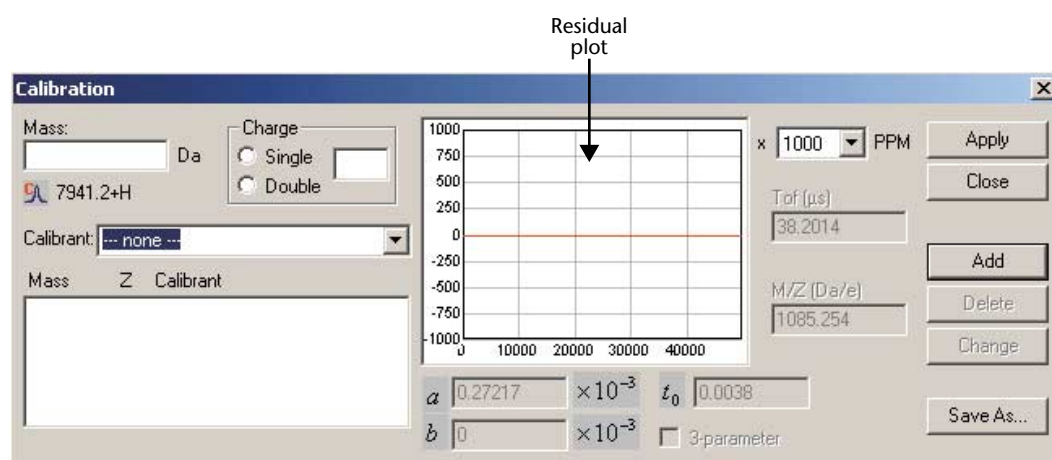

Figure 3-1: The Calibration dialog.
Calibration settings are adjusted in the **Calibration** dialog (Figure 3-1), which allows selection and centroiding of peaks, and assigning the correct mass and charge to the peaks. The dialog is accessed by clicking the **Calibrate** toolbar button in the **Data Analysis** toolbar.
1. Open the **Calibration** dialog (refer to Figure 3-1) by clicking the **Calibrate** toolbar button in the **Data Analysis** toolbar.